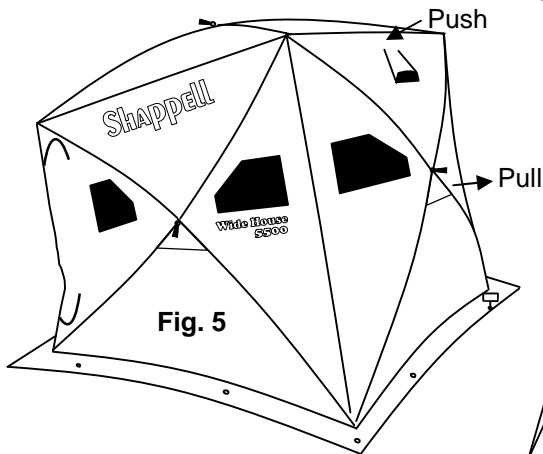

Fig. 5
5) Pull out all remaining Hubs. (Fig. 5)